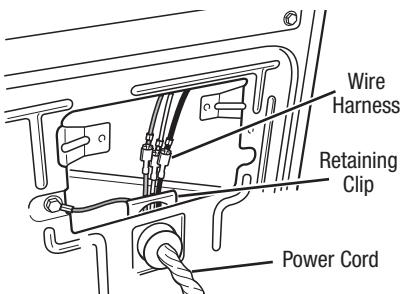

Figure 4. *Remove the retaining clip.*
- 5. If it is necessary to replace the power cord, remove the retaining clip that secures the cord to the back panel. See figure 4. Disconnect the cord from the main harness and the ground wire from the rear panel, then pull out the power cord.